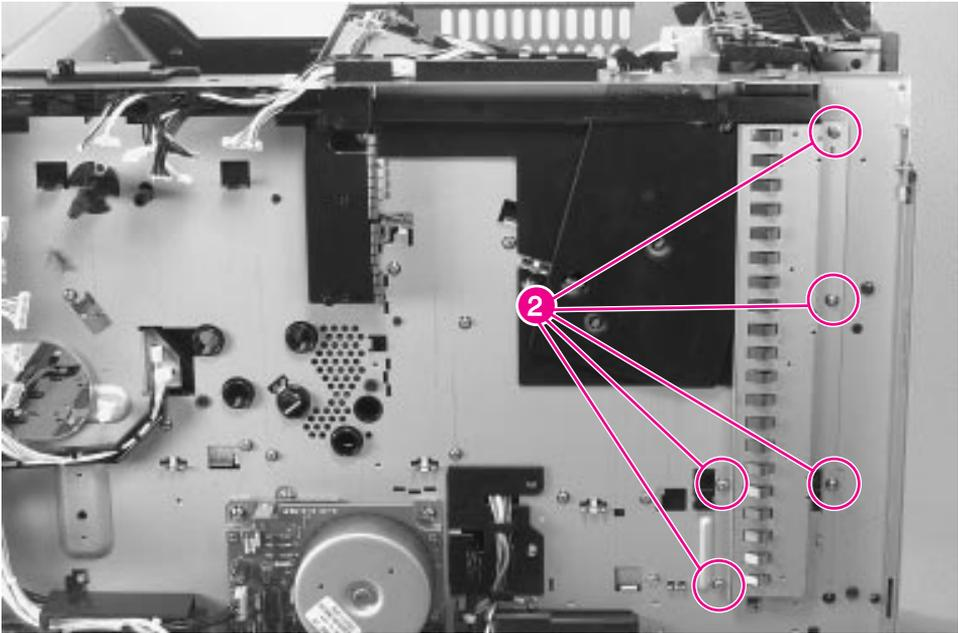

Figure 6-35 Output Paper Sensor PCA (2 of 4)
- 3** Remove 5 screws (figure 6-35, callout 2), and remove the Formatter PCA grounding strip.